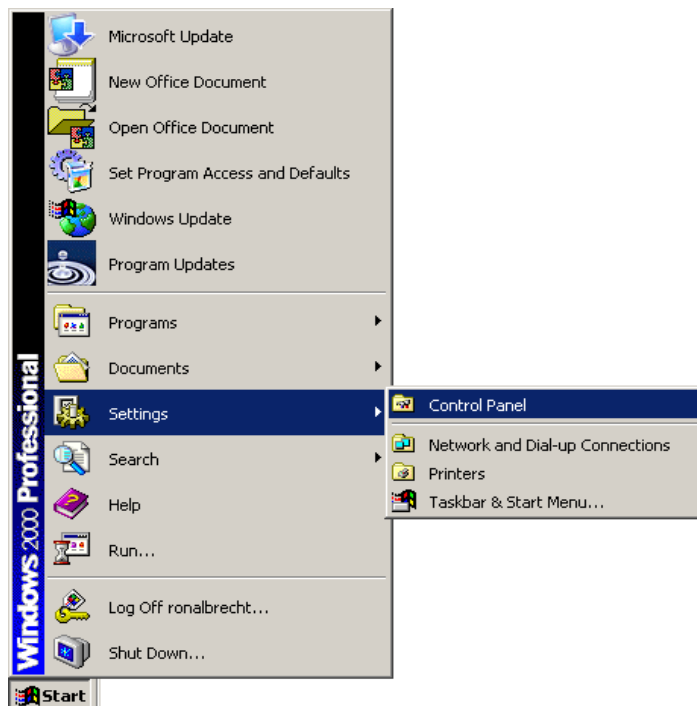

Figure 6-14: Windows Control Panel
Step 1: Open **Windows Control Panel** (Figure 6-14).